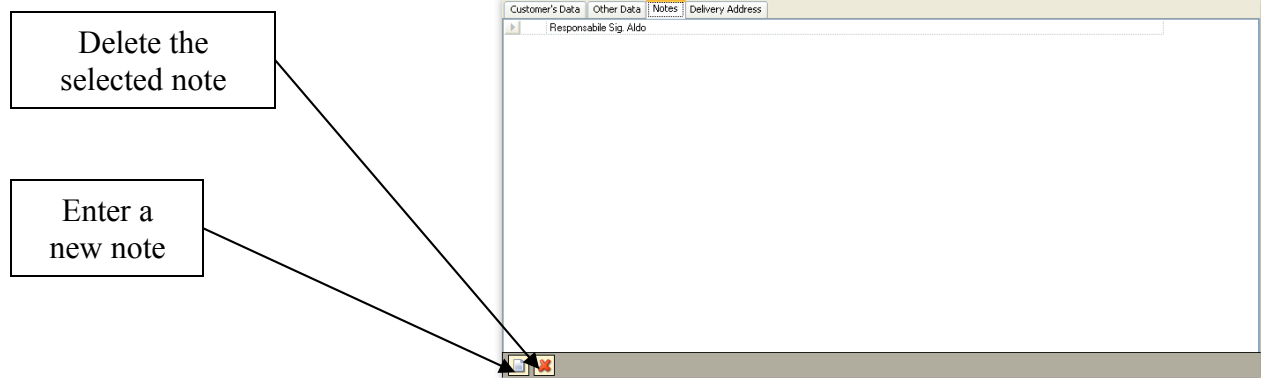

Fig. 24 - Customer notes
**3. Enter customer "Notes":** in order to enter the "Notes", all "Personal data" mandatory fields must be set up. Then, click on the bottom-left button in the appropriate window (Fig. 24). Notes are not mandatory, but are used to add further information to the customer tabs.